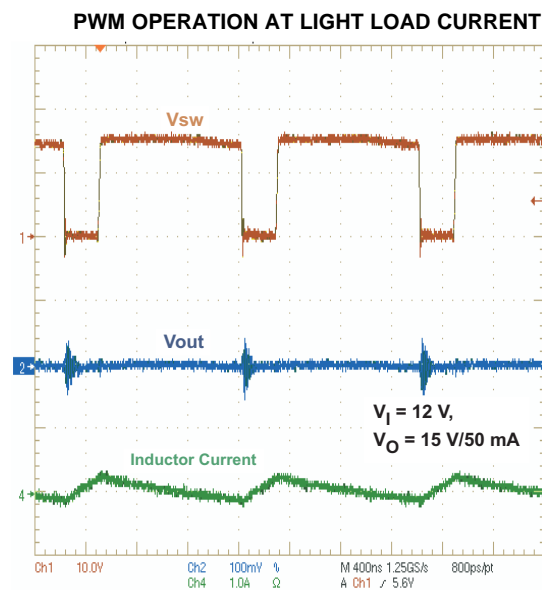

Figure 4.
The main boost converter has an overvoltage protection of the main switch M1 if the feedback pin (FB) is floating or shorted to GND causing the output voltage to rise. In such an event, the output voltage is monitored with the overvoltage protection comparator on the SUP pin. As soon as the comparator trips at typically at 20 V then the boost converter stops switching. The output voltage will fall below the overvoltage threshold and the converter continues to operate. See Figure 4.